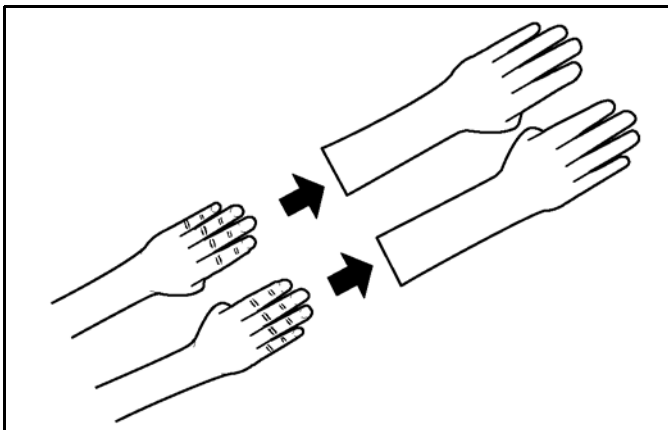

Figure-101
7. Put on heat-resistant gloves. See Figure-101.